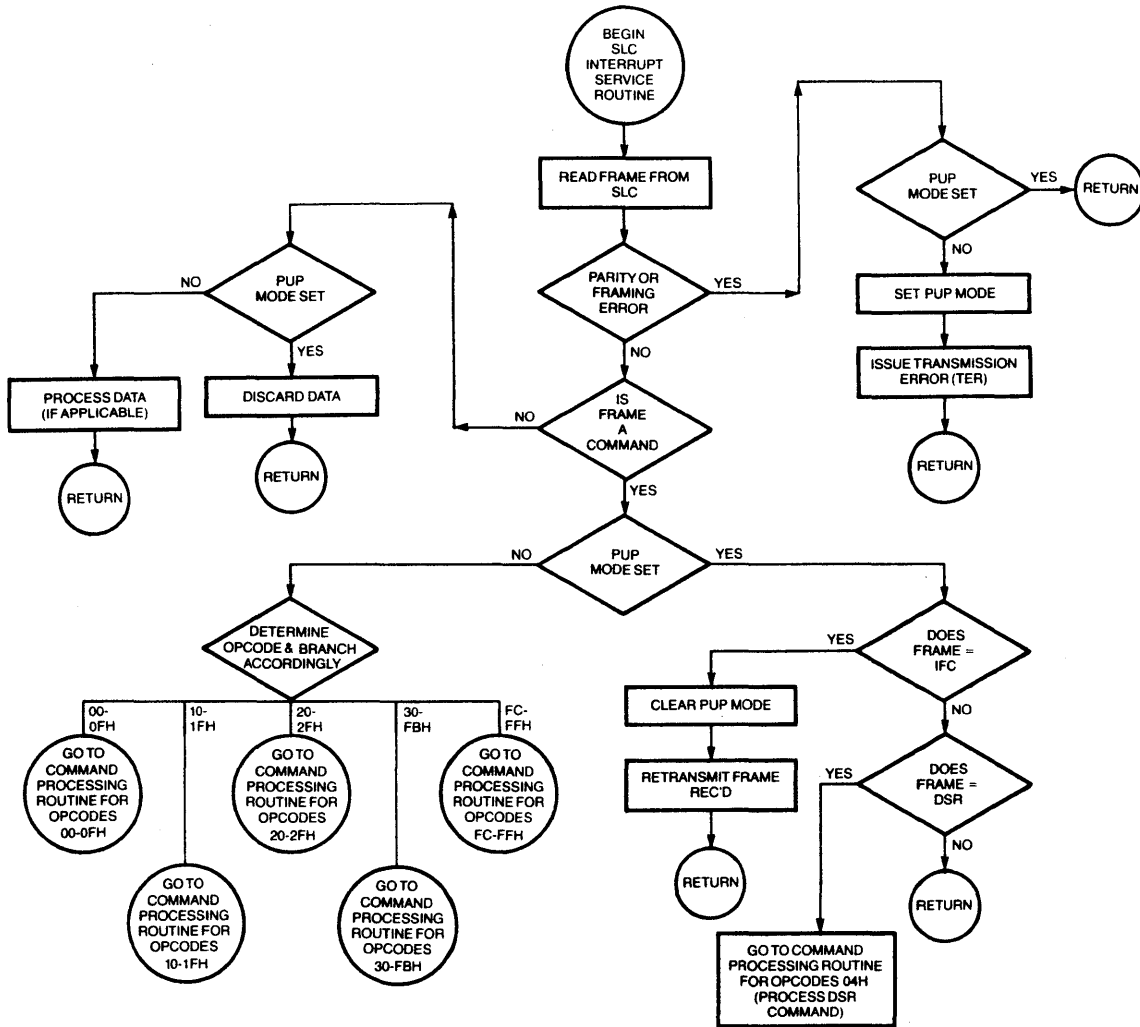
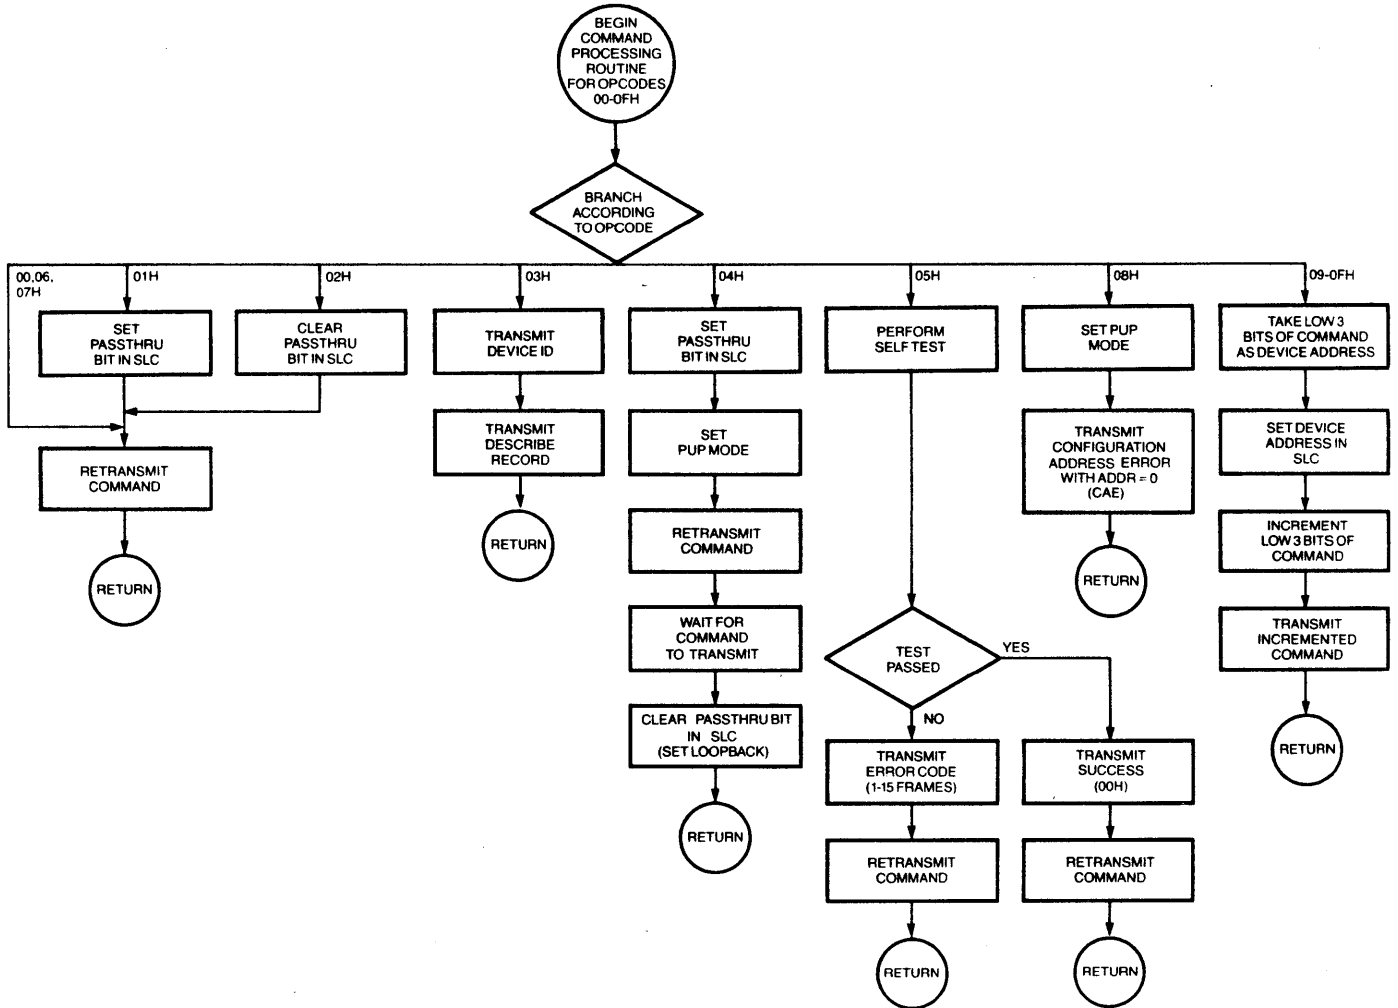

Figure 4-8. Device Interrupt Service Routine
Figure 4-9. Command Processing Routine for Opcodes 00 - 0Fh
When the SLC interrupts the device processor, control transfers to the interrupt service routine. The interrupt service routine is shown in Figure 4-8. There are two basic functions handled in this routine, error recovery and command sorting. Once in the routine, the processor reads the frame received by the SLC and checks for a parity or framing error. If an error has occurred, then PUP Mode is set. If PUP Mode is already set, then control returns to the top level, and the processor continues looking for data and interrupts. If the SLC was already in PUP Mode, a Transmission Error (TER) is not transmitted. If not, then the processor instructs the SLC to issue a TER and returns to the top level.
If no error has occurred, then the frame command bit is checked. If clear (0), then control transfers to the left and PUP Mode is checked as shown in Figure 4-8. If PUP Mode is clear, then the frame is a data frame and should now be processed, if applicable. An example might be a data frame which precedes a Write Register command. However, if the device does not support the Write Register command, then the data cannot be processed and control returns to the top level. If PUP Mode is set, then the data is discarded because the device must ignore data when in PUP Mode. Control returns to the top level.
Command processing is handled by five routines, shown in Figures 4-9 thru 4-13. Each routine handles a range of opcodes such that all HP-HIL commands are covered. For the most part, the routines show the steps required to process all the various commands and follow closely with the information given in Appendix A.
Processing for commands with opcodes 00h thru 0Fh are shown in Figure 4-9. For opcode 00h, the command is retransmitted since IFC requires processing only when the device is in PUP Mode (see Figure 4-8). Opcodes 06h and 07h (RPG and WRG) are retransmitted because they are not supported in this example.